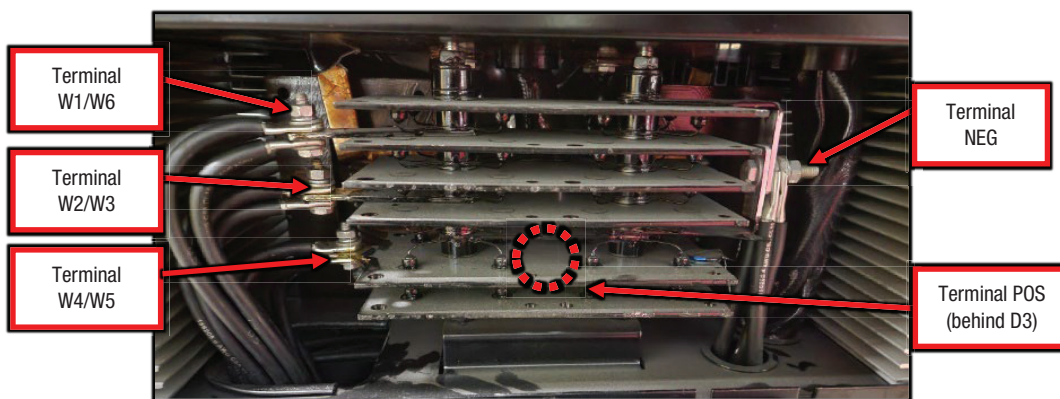

Figure F.3
A.3. Perform the static measurements in Test Table 1, refer to Figure F.3 for test point locations. NOTE: MEASUREMENTS ARE MADE ON D3 TERMINALS WITH THE LEADS REMOVED.